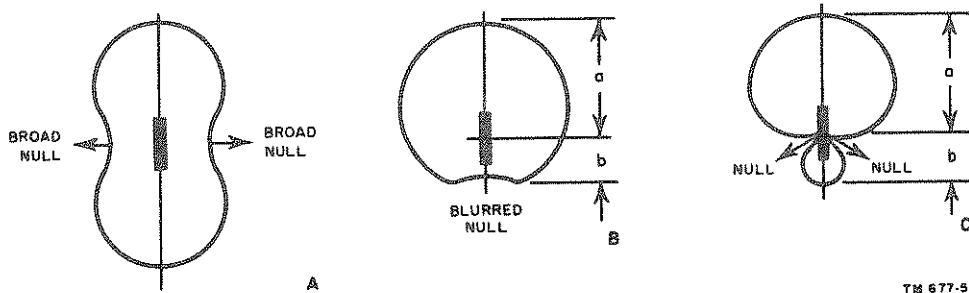

Figure 5. Antenna patterns showing effect of inaccuracies of adjustments.
d. Any unbalance in the loop antenna input circuit will result in broad nulls (A, fig. 5). Any inaccuracy in the components of the sense amplifier will also result in a poor cardioid pattern. If the gain is too high, the resulting pattern will resemble that shown in B; if the gain is too low, the pattern will resemble C. In either case, the ratio a to b (B and C, fig. 5) is decreased and it is more difficult to obtain proper sense indication.